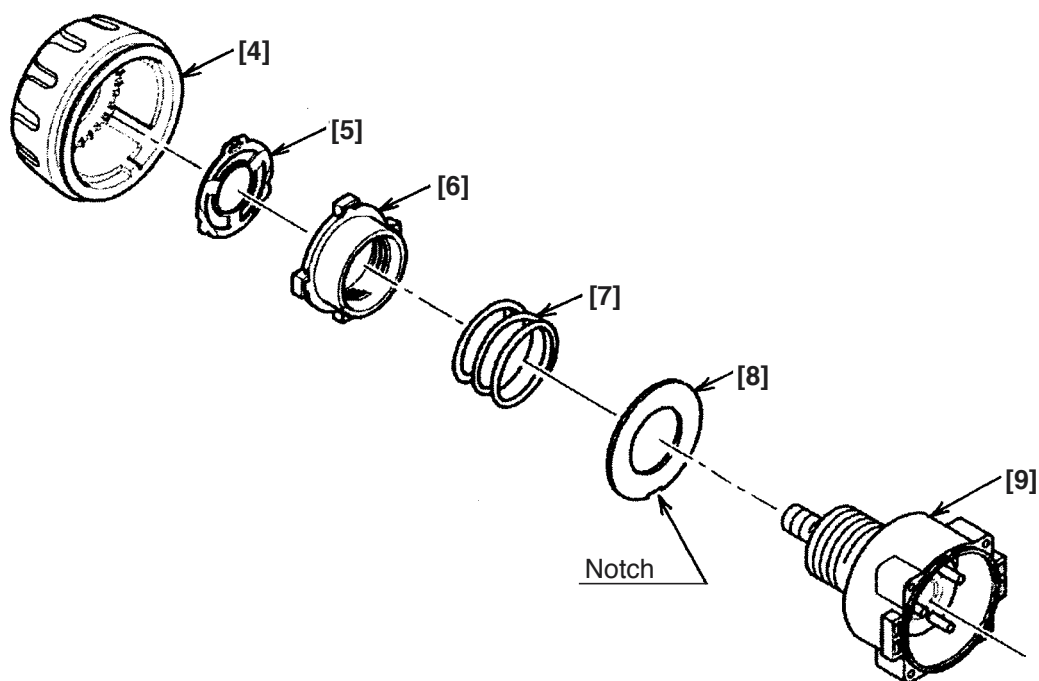

Fig. 9
(2) Reassembly of the clutch unit
- (a) Mount Washer (D) [8] and the Spring [7] to the Front Case [9]. (See Fig. 9.)